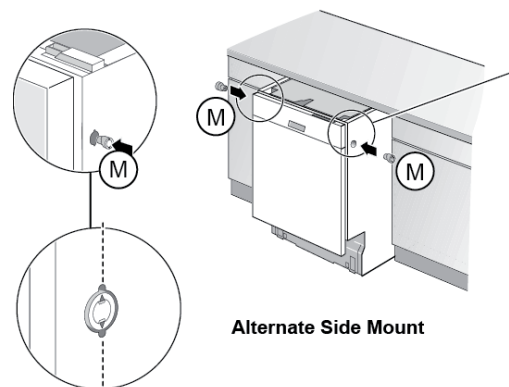

Figure 19
**Alternate Side Mount** for opening  $23\frac{5}{8}$ " (600 mm). Insert a side mount force distributor (M) in each side as shown in **Figure 19**.